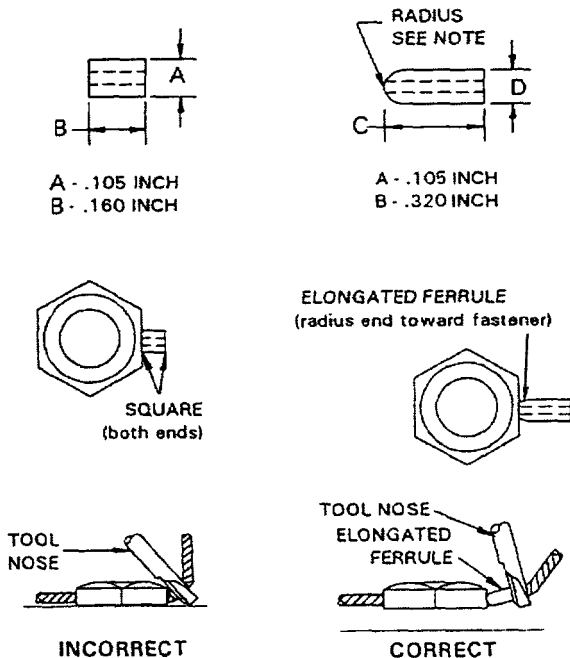

Figure 26. Low Profile Application for .032 and .040 Diameter Safety Cable
46. **ELONGATED FERRULES.** Ferrules of extra length, having a radius at one end and a straight surface at the other end, may be used in applications that restrict the clearance for the installation tool nose to be placed in correct alignment with the fastener (such as low profile fastener heads, recess locations, or obstructions, by structures or installed components); (Figure 26).